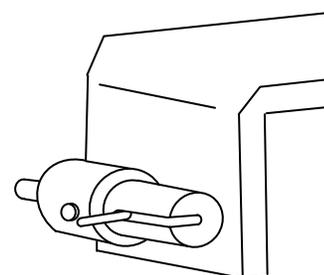

**Figure 4-2: Portable Ramp Installation (Left Side)**
2. Apply Loctite 262 threadlocker to the threads of the shoulder screws. Install a shoulder screw in each hinge (see Figure 4-2).